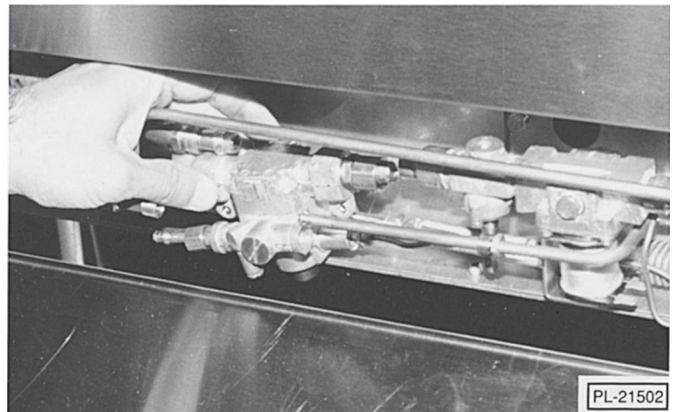

Fig. 72
6. Disengage safety valve assembly from the manifold area (Fig. 72).